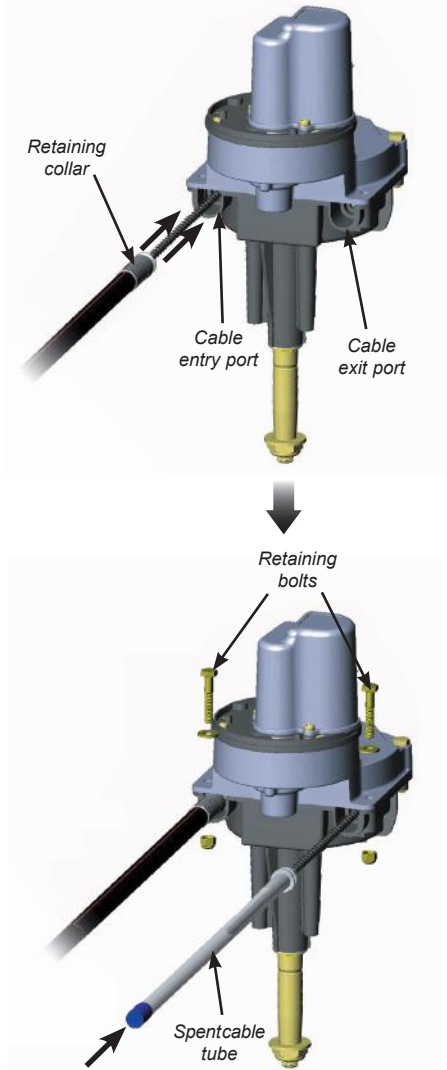

Fig B11 - Fitting steering cable and spent cable tube to drive unit
- Fit the steering cable (Fig B11).